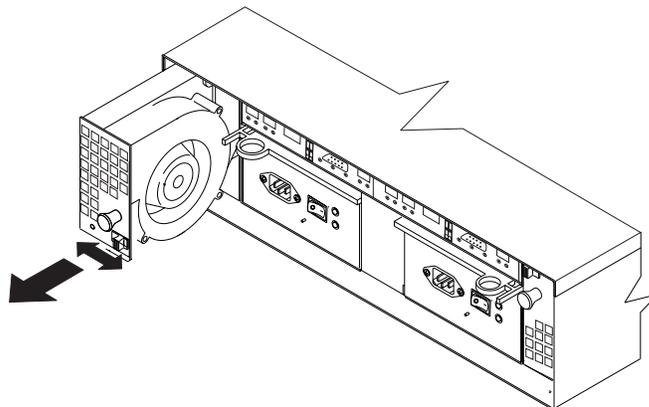

Figure 54. Removing a fan
- b. Use the handle (black knob) to pull the fan from the storage server. See Figure 54.